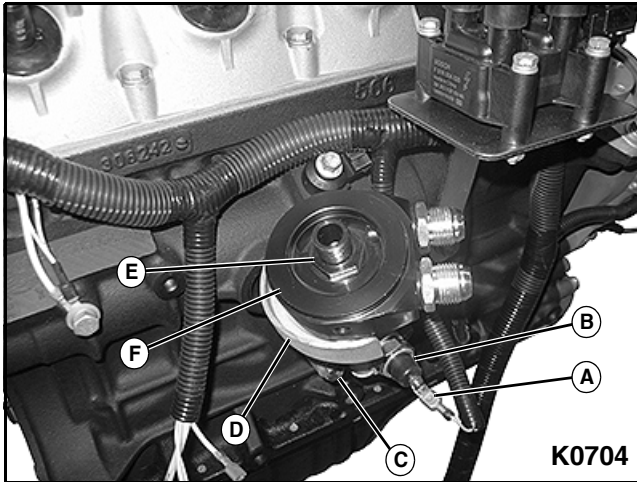

Figure 3-116
2. If equipped: Install oil cooler adapter (F) and tighten center standoff nut (E). See **Figure 3-116**.